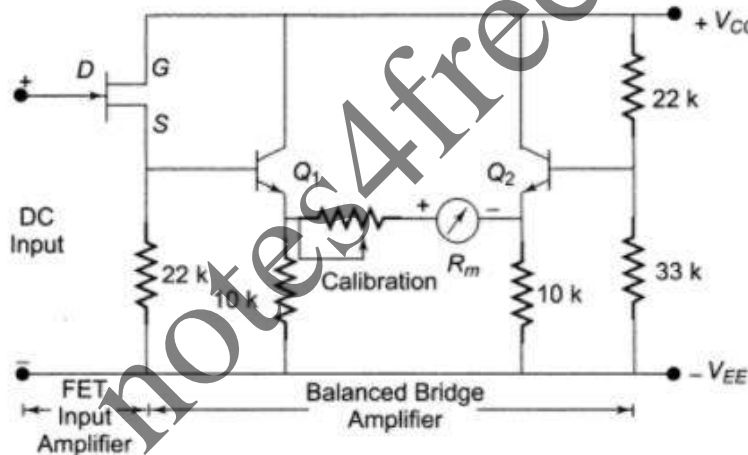

Fig. 3.5 Transistor voltmeter
- Figure 3.5 gives a simplified schematic diagram of a dc coupled amplifier with an indicating meter.